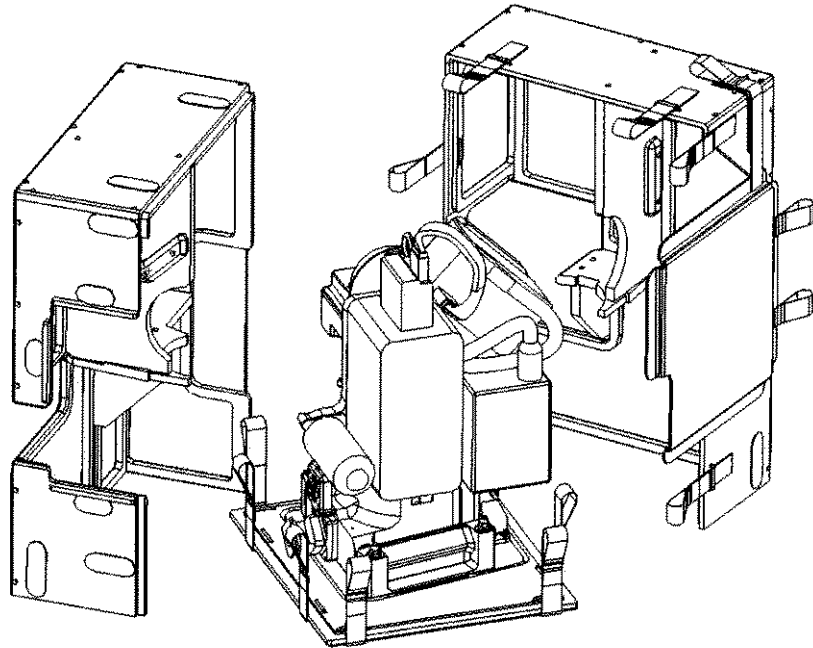

Figure 1
3. Open two shells to expose mounted CLPA on base plate and ORU interface (figure 1)